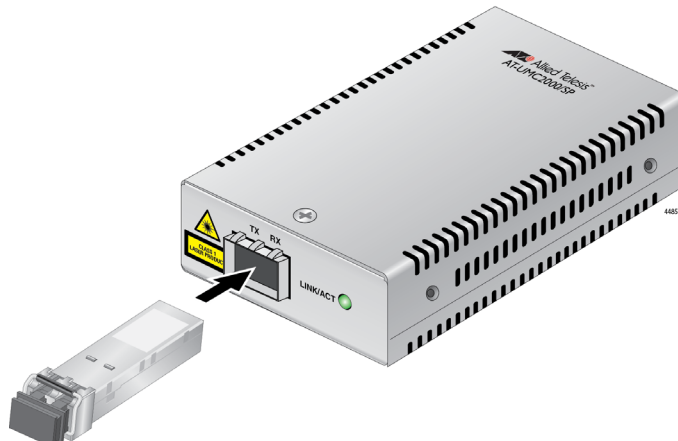

Figure 19. Inserting the SFP
4. Slide the transceiver into the SFP slot until it clicks into place. See Figure 19.